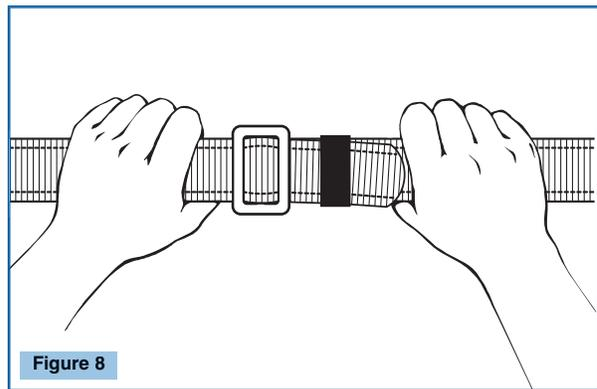

Figure 8
**8. Inspect friction-style buckles.** Check friction-style buckles for sharp edges, cracks, and distortion. Make sure that outer bars and center bar are straight. Also check corners and attachment points for wear. (See Fig. 8)